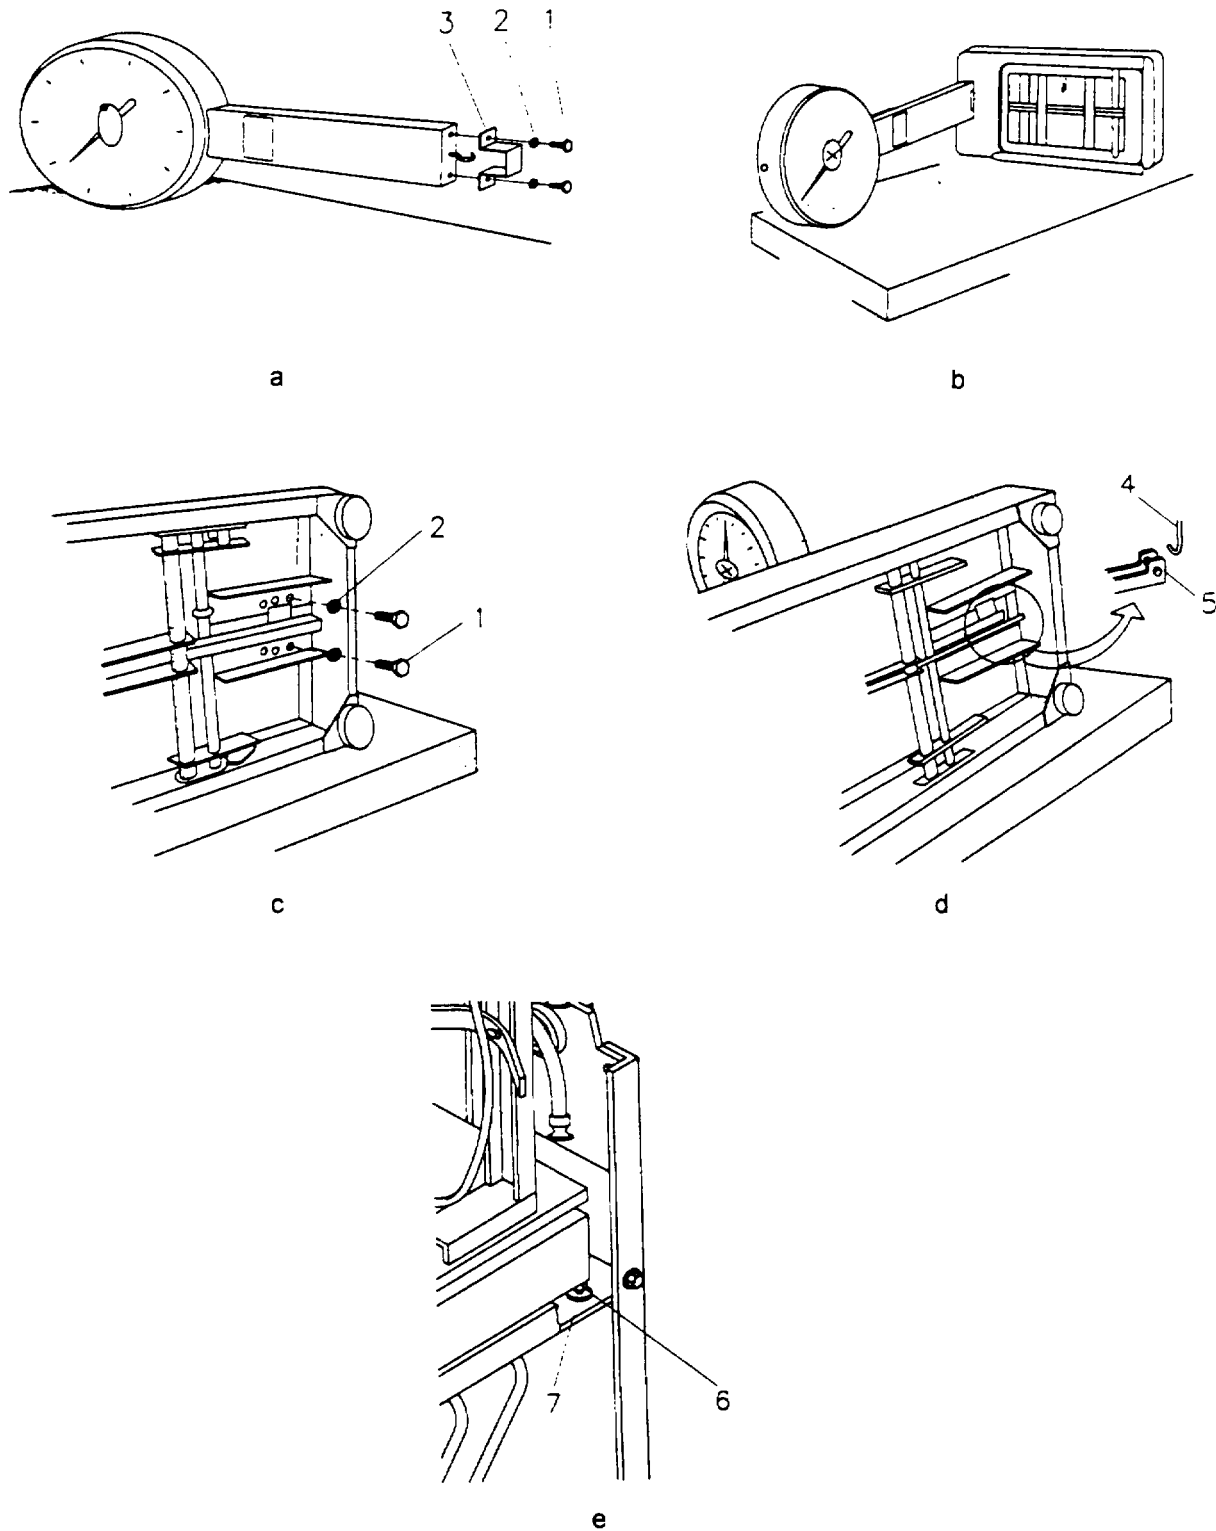

Figure 4-4. Scale Installation
4-12.1 Assembly. (Refer to Figure 4-4)
- a. As shown in Figure 4-4.a, remove two screws (1), washers (2) and shipping bracket (3) at the low end of the column assembly. Discard the bracket but retain the two fastening bolts
- d. Turn the base assembly upside down and loosen the locking nut (6) on each of the four adjustable feet.
- e. As shown in Figure 4-4.b place the dial head mechanism and base assembly on their sides. Be sure that the dial chart is facing the lever mechanism.
- g. As shown in Figure 4-4.c insert two washers (2) and screws (1) (from para a) through the bottom of the base assembly and into the column assembly. Tighten screws as much as possible.
- h. Using a set of pliers, grasp the end of the steelyard assembly (4) but use caution not to scratch or damage the 'V' bearing hook. Hook the 'V' bearing hook under the tooled steel pivot (5) as shown in Figure 4-4.d